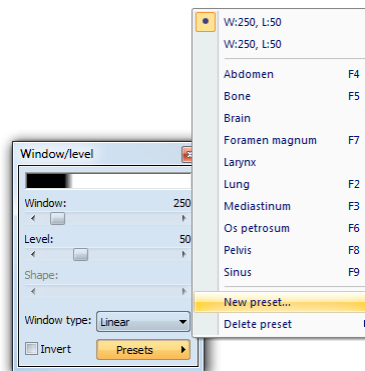

Figure 140 – Create a new window/level preset
3. Select the **New preset...** menu item (see Figure 140) in the displayed list. The **Window/level preset** dialog is then displayed. The initial values for the window, level shape and palette graduation type (even if not displayed) are the same as the current window/level settings in the current view.